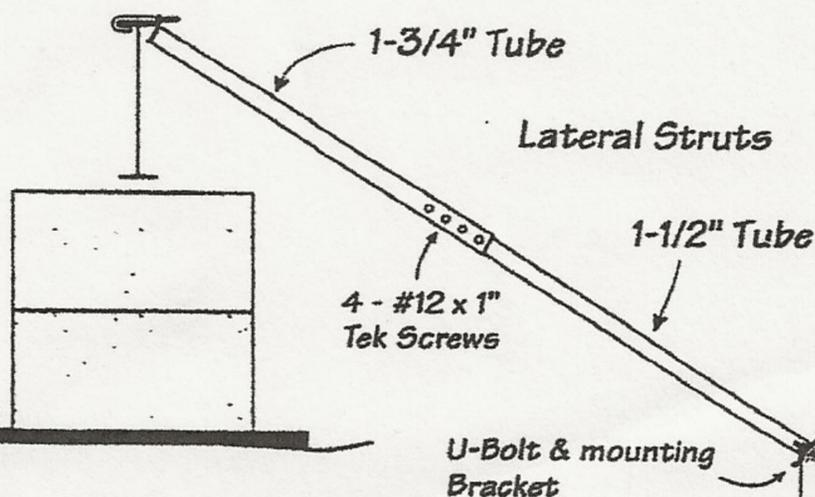

Figure 1
6. Build pier according to State, Local or Home Manufacturers guidelines. (Figure 1)
9. Install a minimum of four (#12 x 1" tek screws) self-tapping screws into the holes provided in the lateral strut so that the two tubes are connected together. (Figure 1)